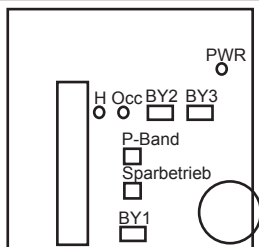

Abb. 2
CA1 has a green LED (PWR) which indicates supply power (see figure 2). There is also a red LED (H) which indicated heating/cooling function. If the LED is lit, the controller is set in heating function. If it is not lit, the controller is set in cooling function. Occupancy mode is indicated by a green LED (Occ). If this is lit, the controller is working in occupied mode. If it is not lit, the controller is working in unoccupied mode.